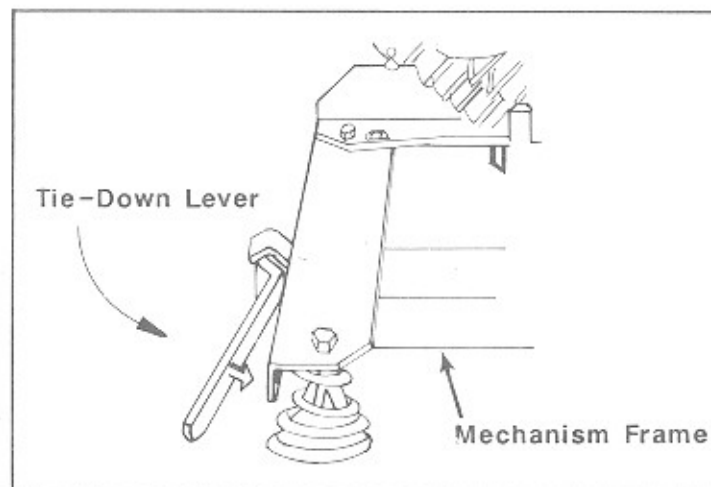

Figure 1-4. CD Changer Tie-Down Levers
2. Remove the shipping tape from the front ends of the mechanism tie-down levers on the side of the mechanism frame (see to *figure 1-4*).